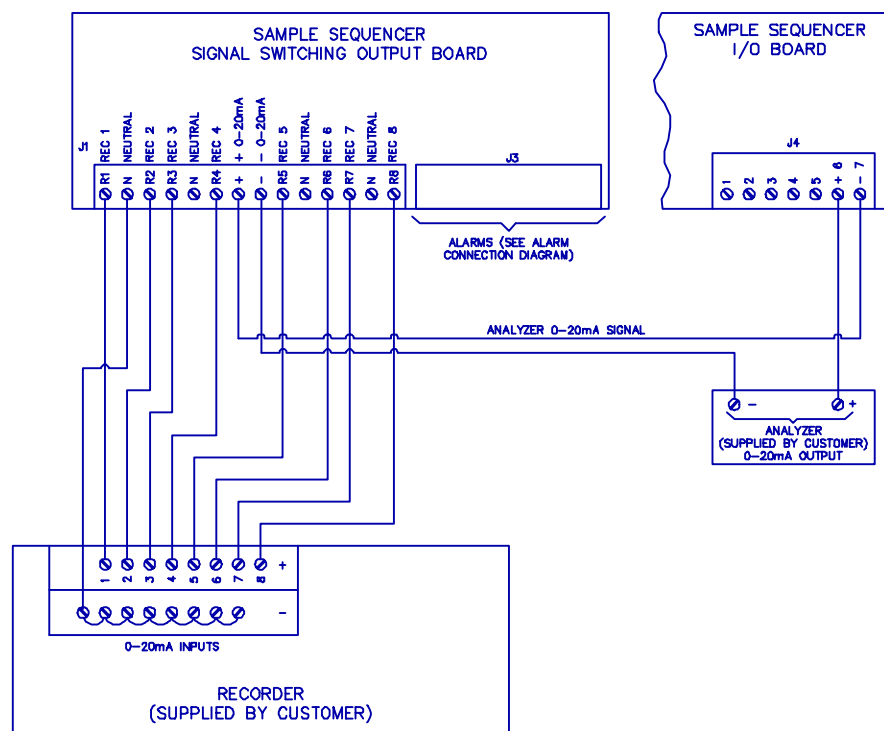
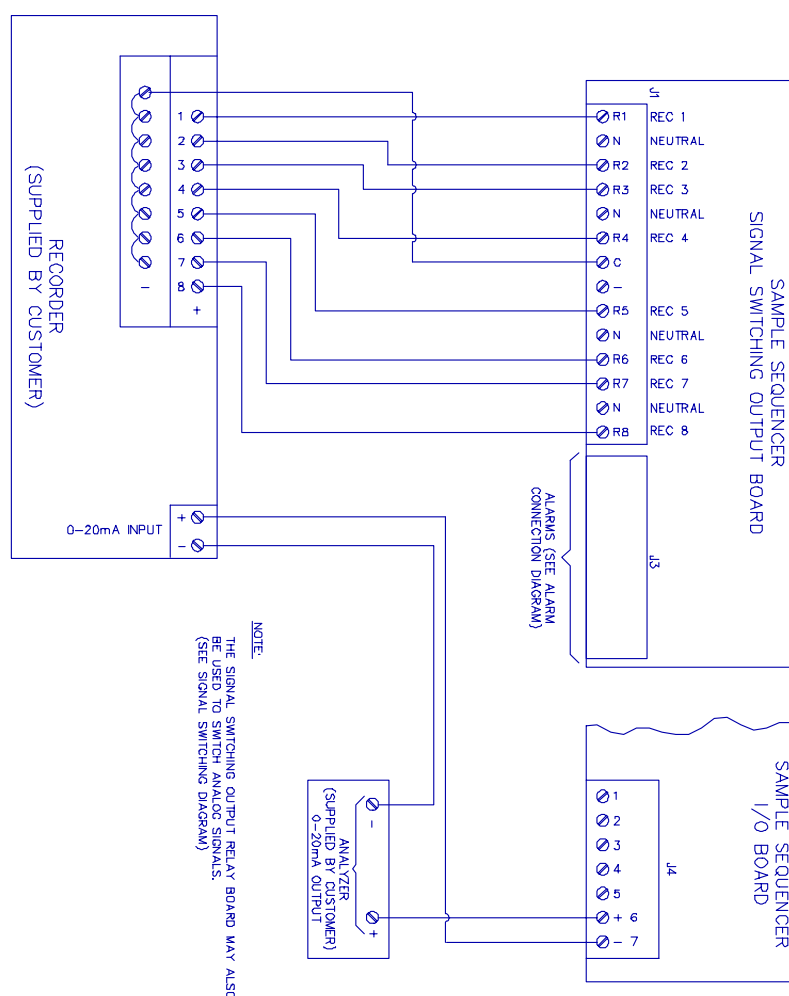

FIGURE 19 - Recorder Connections: Signal Switching Using Signal Switching Output Board
FIGURE 20 - Recorder Connections: Contact Closure Channel Indication Using Signal Switching Output Board
**Signal Switching Output Board** (part number 6-02547C) is used in either of two ways: (1) to commute, (i.e., switch) an analog signal to eight individual outputs to a recorder or data acquisition system as shown in the connection diagram of Figure 19, or (2) to provide only dry contact closures to a recorder to indicate the current active channel as shown in the connection diagram Figure 20. All wiring to this board may be performed with 22 gauge conductor cable (32 ft. or 10m maximum length) as follows. **CAUTION: Disconnect power to the Sample Sequencer before proceeding.**
### Wiring to Switch Analog Signals - Figure 19
### Wiring to Provide Dry Contact Closure - Figure 20